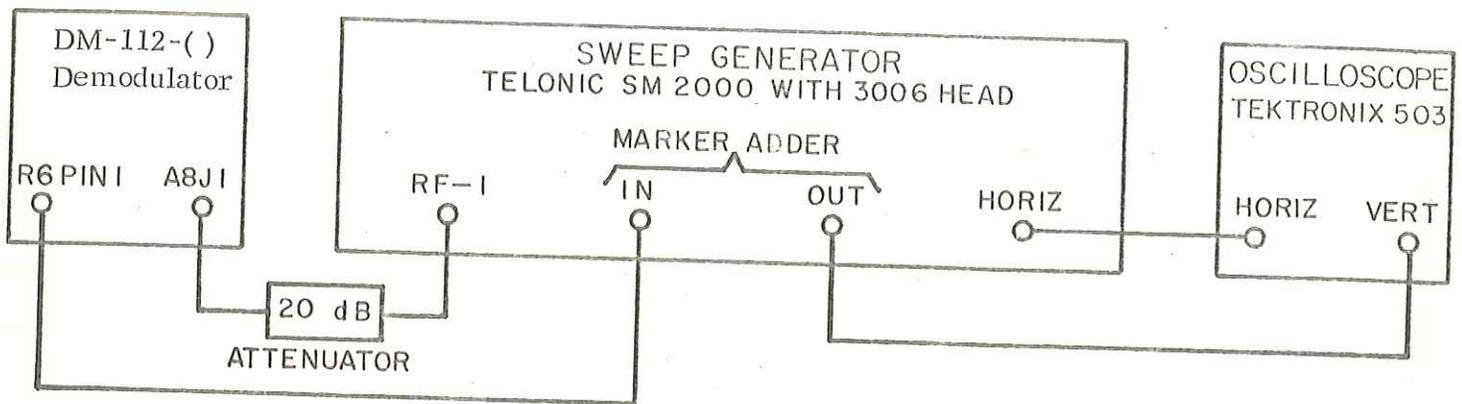

Figure 4-10. Test Setup, 21.4 MHz IF
- (1) Connect the equipment as shown in Figure 4-10.